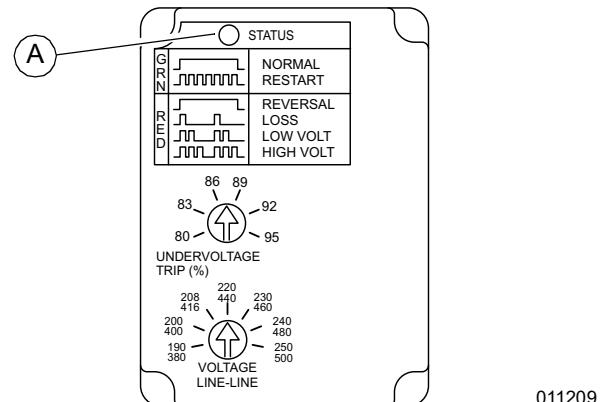

Figure 1-32. Power Monitor Relay
See Figure 1-32. The LED located on the top left (A) represents the status of the relay. See Table 1-5 for LED indication patterns.